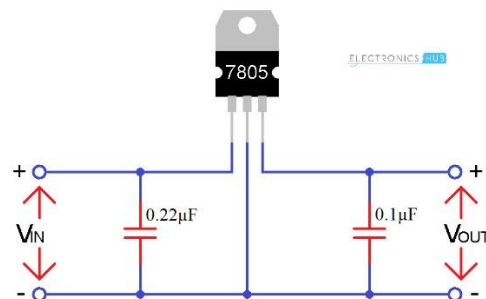

Figure 3: LM7805 voltage regulator
1. Design and build the circuit given in fig 3.